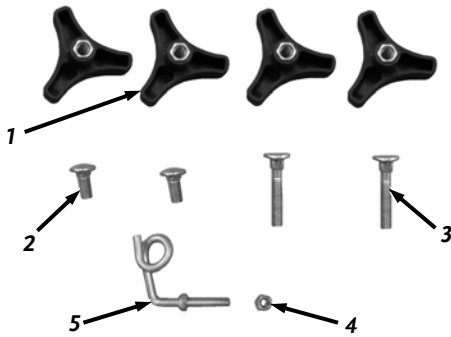

Figure 2
* = Hardware Package (**Figure 2**)